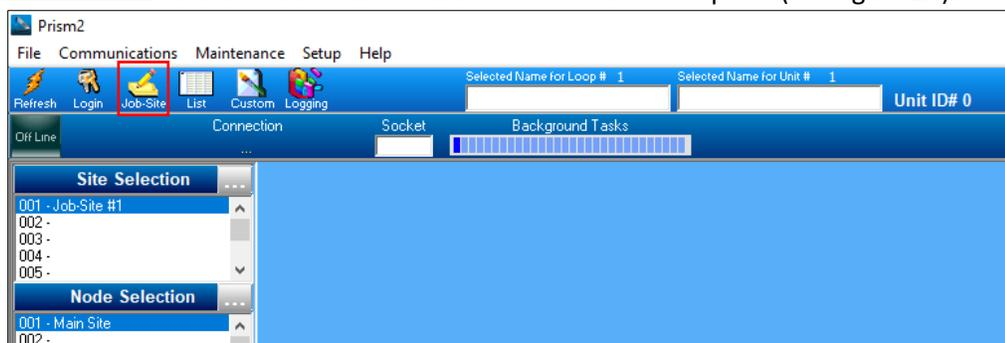

Figure 24: Verifying That You’ve Successfully Logged Into Prism 2
- Once you are logged in, the bottom right corner of Prism 2 will change from **View Status Only** to **Administrator Access** and the ribbon will now show the “Job-Site” option (see figure 24).